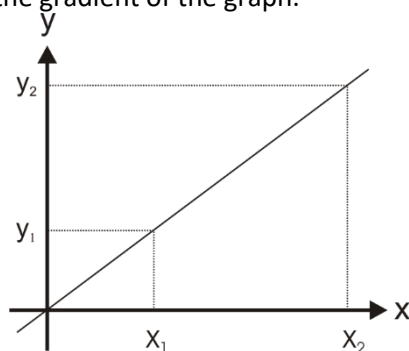

Figure 1: A directly proportional relationship.
9. If the relationship between the dependent and the independent variable is linear as in **figure 1**, then the relationship between the two quantities is of the form:
If a variable y is directly proportional to another variable x , i.e., $y \propto x$ or $y = mx$, the graph is a straight line which always passes through the origin (see figure 1). In the above equation, m is called the proportionality constant, and it is the gradient of the graph.
If the change in y is directly proportional to the change in x , then: $\Delta y \propto \Delta x$ as in figure 1.